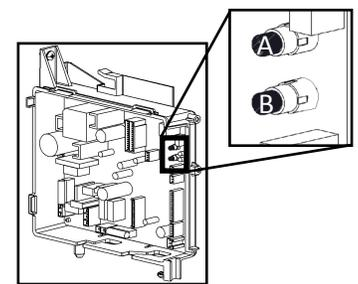

Figure 4: A and B Push Buttons
- a. Locate the two push buttons (A and B) on the PC board (Figure 4).